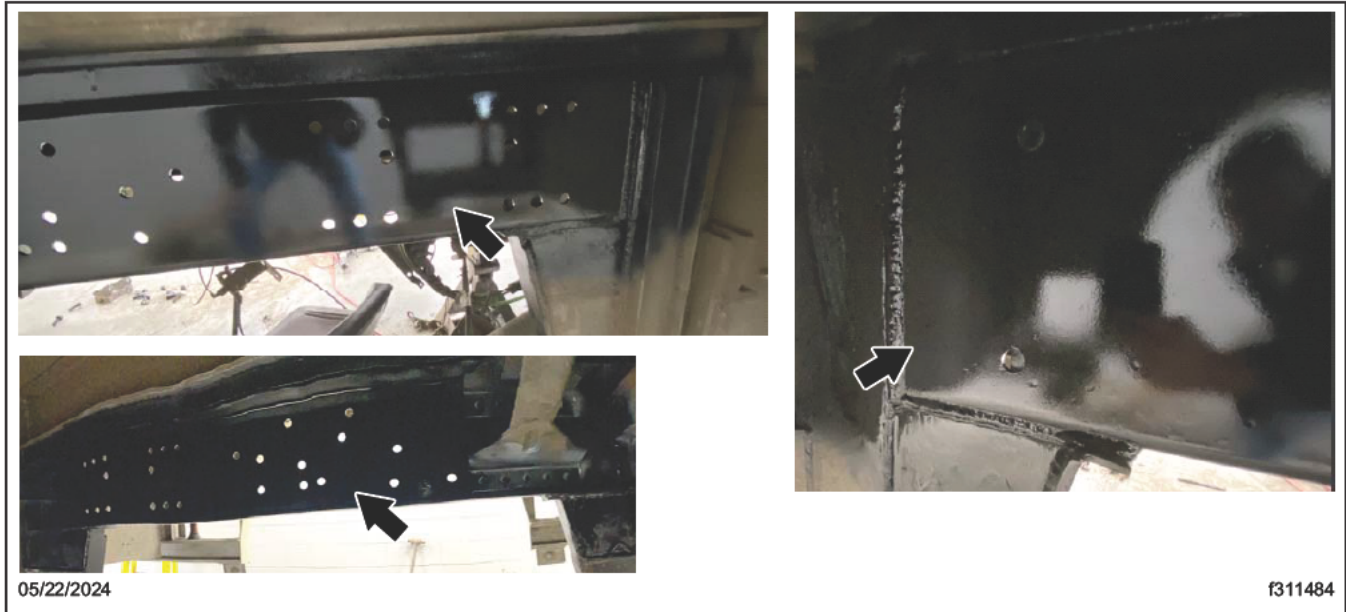

Fig. 41, Primer and Paint Applied on the New Frame Rail
13. Apply primer and paint on the inside and outside of the new frame rail. See Fig. 41 .